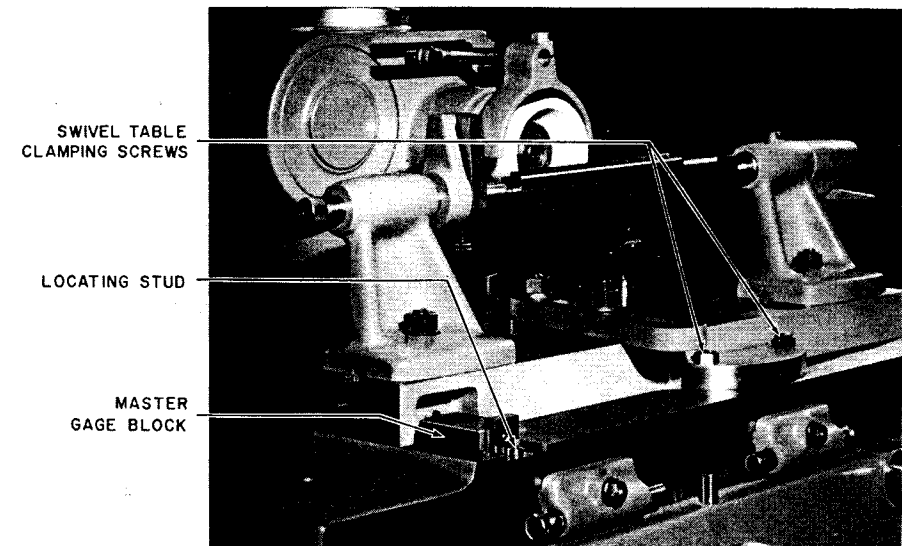

Figure 21A
**Swivel Table Adjustments.** The workhead and/or the tailstocks are mounted on an auxiliary swiveling table, carried by the machine sliding table. This table provides the means by which the work may be swiveled clockwise or counter-clockwise to grind tapers. The swivel table may be clamped or unclamped in any position by means of the swivel table clamping screws (Figure 21A).
To assist in accurately setting up for taper work, the left-hand end of the machine table is provided with a unique taper setting device that assures accurate grinding of tapers up to 2" per foot, without resort to a "cut and try" technique. Based upon the trigonometric function of the tangent of the angle, the "Swivel Table Tange-Bar Taper Setting Device" (Figure 21A) enables you to adjust the swivel table to the correct taper per foot simply by inserting precision gage blocks between the swivel table taper setting master gage block (Figure 21A) and a stud on the sliding table (Figure 21A).
1. Loosen swivel table clamping screws (Figure 21A) and position swivel table until there is sufficient room to insert master gage blocks supplied with the machine and precision gage blocks equal to the .050" taper per foot desired.
**Table Dogs.** Spring cushioning table dogs, when set as shown in Figure 21A, not only govern the length of table traverse, but absorb the shock at the end of each stroke and smoothly reverses the direction of table motion. The dogs may be reversed and the fine adjustment used when positive table stop is desired.